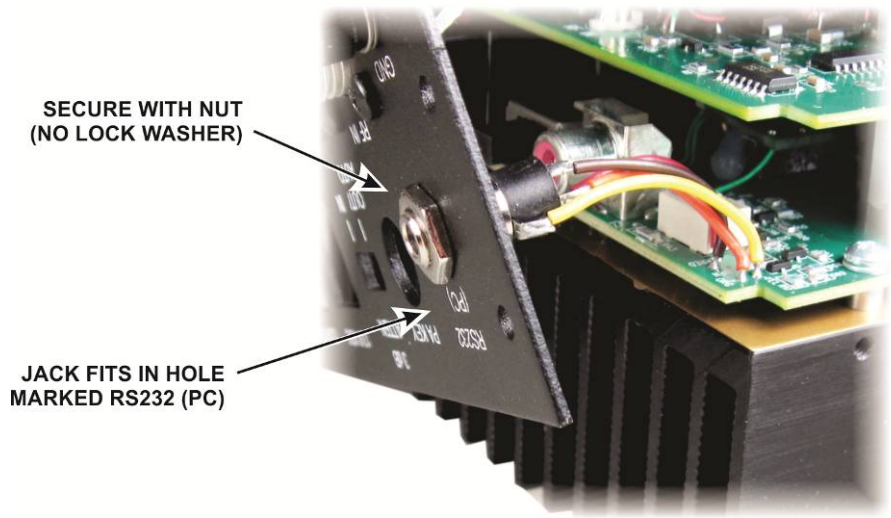

Figure 17. Mounting the RS232 Jack in the Rear Panel.
Pass the small jack through the hole marked RS232 (PC) on the rear panel and secure it with the hex nut (see Figure 17).